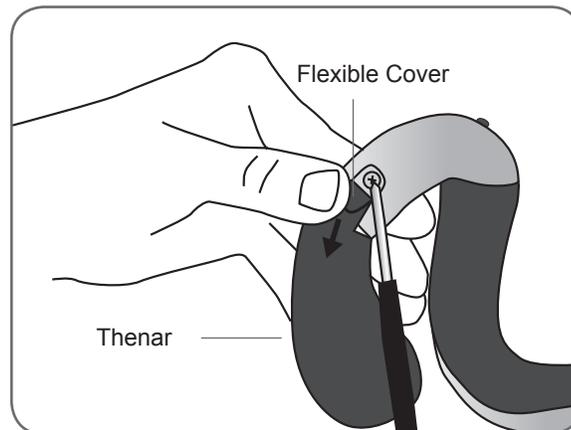

Figure 6-3: Attaching the thenar to the Orthosis spiral end.
4. Tighten the thenar screw. The screw secures the thenar in place and makes the electrical contact between the thenar and the Orthosis. See Figure 6-3.